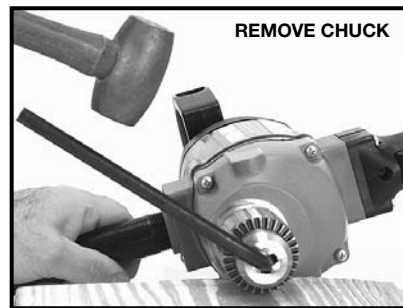

Fig. 5
4. Place the short end of a large hex wrench ($\frac{1}{4}$ " or larger) into the chuck. Align wrench flats with chuck jaws and tighten chuck securely using chuck key. While supporting chuck on a solid surface, position hex wrench to left (see Fig. 5) and strike wrench a sharp blow with a hammer to loosen chuck. Turn chuck counterclockwise to remove.